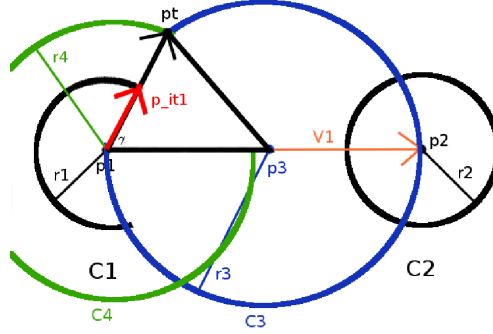

Figure 8: Step 5
5. This is accomplished by first drawing a triangle from p_1 to p_3 to p_t like the one shown in Figure 8. The segments $\overline{p_1p_3}$ and $\overline{p_3p_t}$ have magnitude $r_4 = \frac{D}{2}$. The segment $\overline{p_1p_t}$ has magnitude $r_3 = r_1 + r_2$. We are interested in the angle